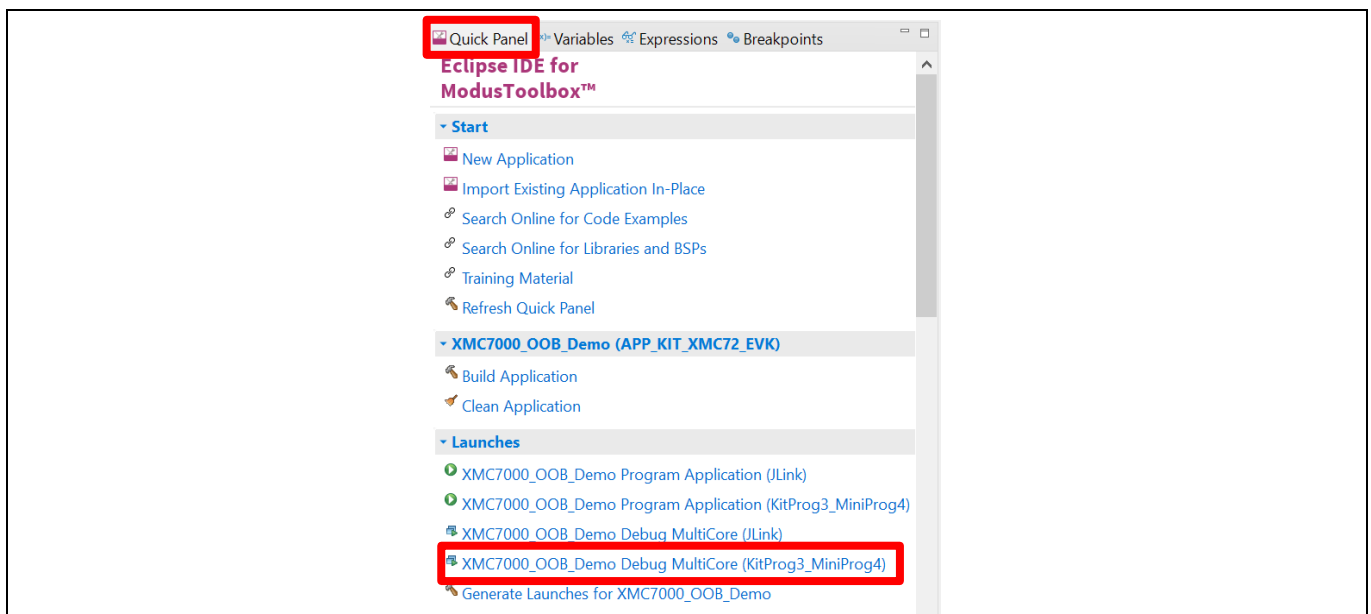

Figure 13 Debugging in the ModusToolbox™ software
5. ModusToolbox™ software has an integrated debugger. To debug a XMC7200D application, in the Project Explorer, select **<App_Name>** project. In the Quick Panel, scroll to the **Launches** section and click the **<App_Name> Debug (KitProg3_MiniProg4)** configuration as shown in **Figure 13**. For more details, see the “Program and debug” section in the **Eclipse IDE for ModusToolbox™ user guide**.